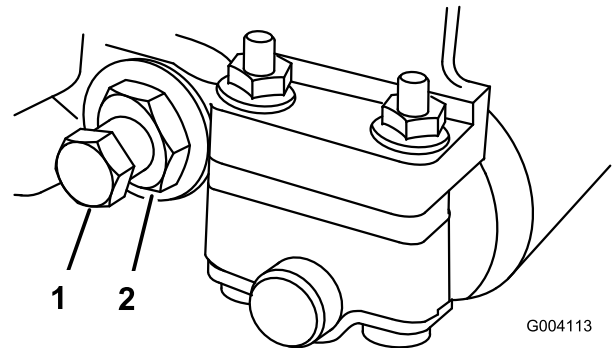

Figure 62
2. Back out the spring tension nut, until the washer is no longer tensioned against the bedbar (Figure 62).
3. On each side of the machine, loosen the jam nut securing the bedbar bolt (Figure 62).